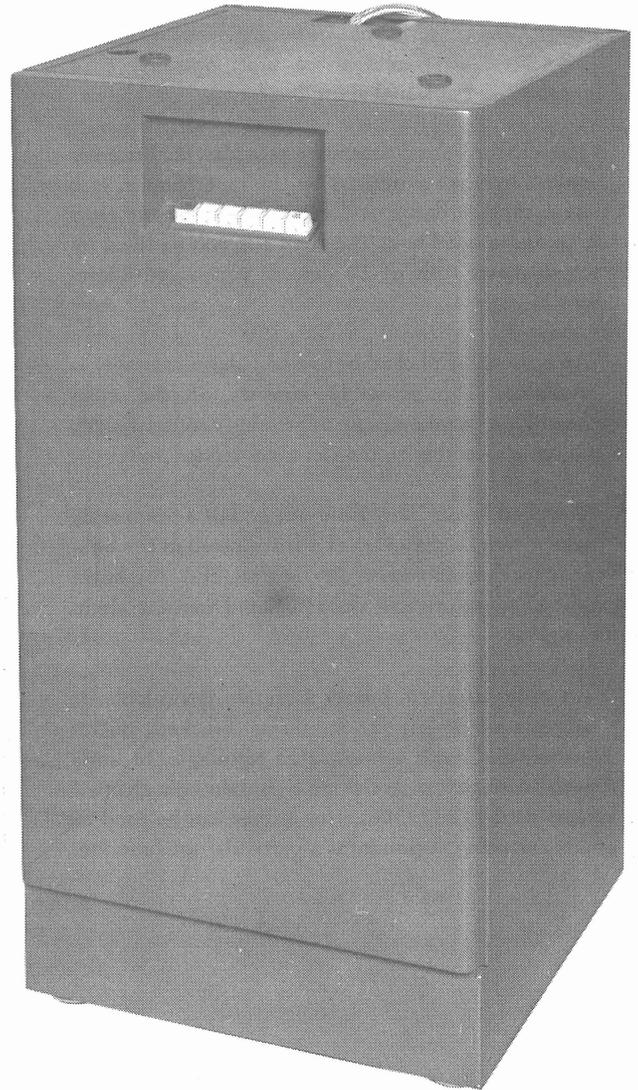

Figure 1 - Receive-Only Reperforator Table
1.03 The table (Figure 1) consists of a cabinet table and a door with control switches. Approximate overall dimensions are 25-3/8 inches high by 13-7/16 inches wide by 13 inches deep, and weighs 30 pounds.